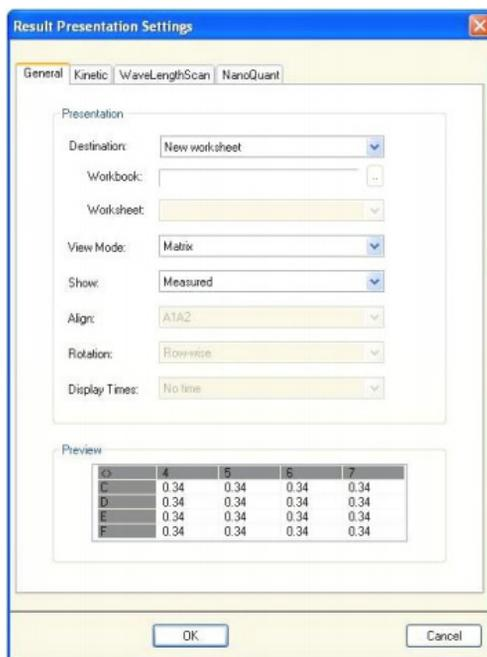

Figure 24. Result Presentation Settings; Setting the Excel export conditions
- 2 To edit the options for the excel export, click on **Result Presentation Settings**. See **Figure 24**.